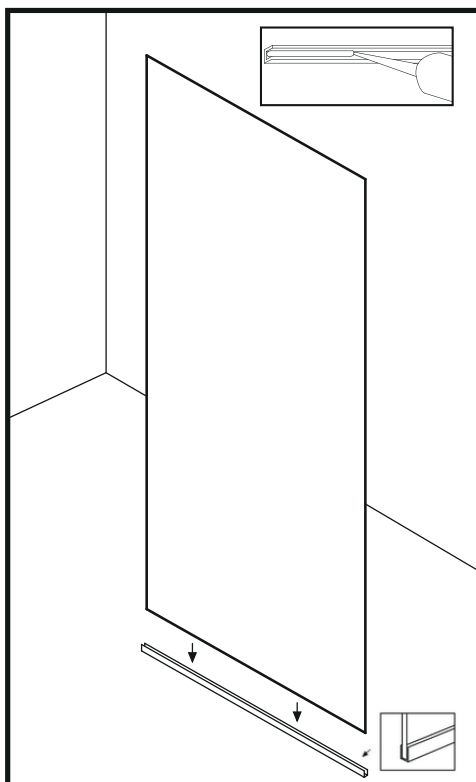

Figure 3
6. Fill the U-profile with an even silicone strip. (Figure 3)